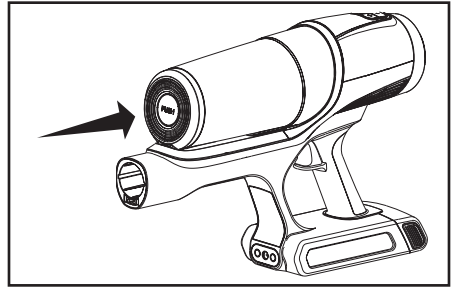

Fig. 1
1. Make sure the vacuum is turned off before performing any maintenance. Locate the dust cup release button at the bottom of the dust cup. Press the button release to release the dust cup (Fig. 1).